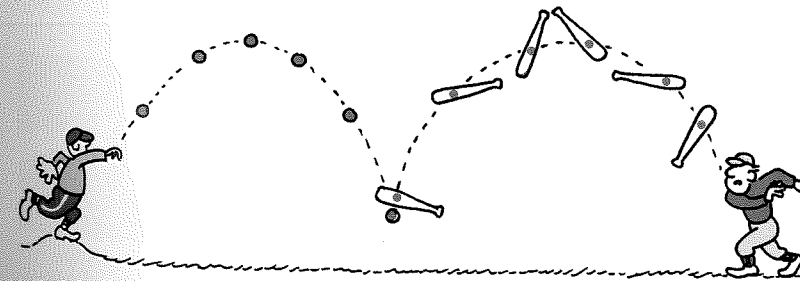

Fig. 9-1 The centers of gravity of the baseball and of the spinning baseball bat each follow parabolic paths.
Throw a baseball into the air, and it follows a smooth parabolic path. Throw a baseball bat into the air with a spin, and its path is not smooth. The bat seems to wobble all over the place. But it wobbles about a special point. This point follows a parabolic path, even though the rest of the bat does not (Figure 9-1). The motion of the bat is the sum of two motions: (1) a spin with this point at the center and (2) a movement through the air as if all the weight were concentrated at this point. This point is the **center of gravity** of the bat.